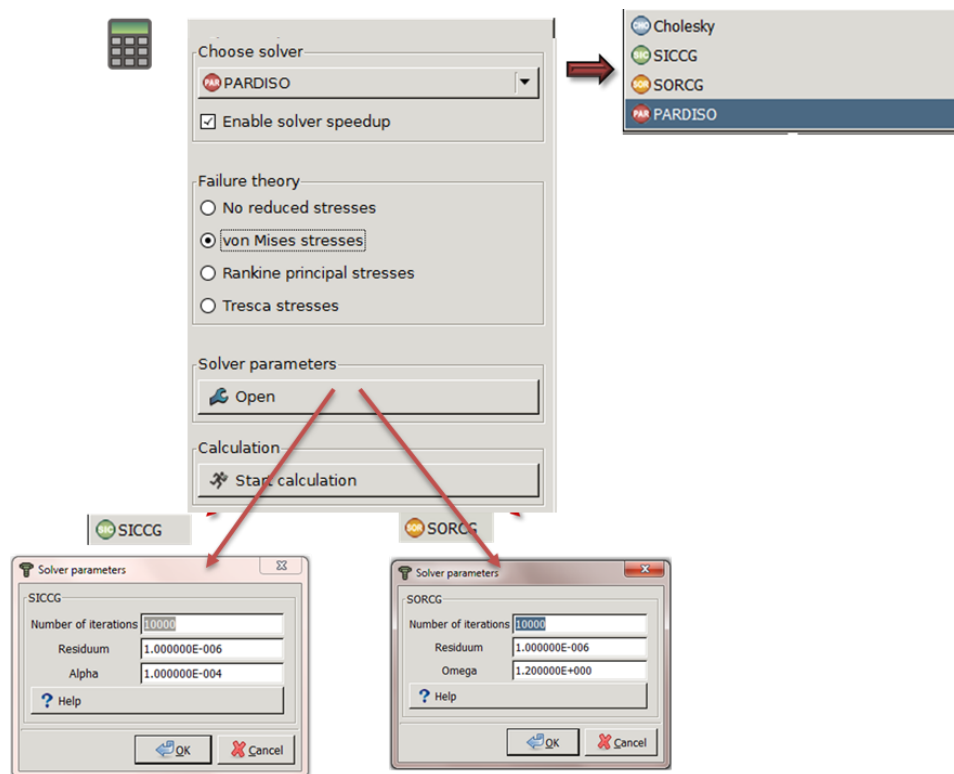

Figure 42: Choose the appropriate equation solver
The user can enter the temperature either in Kelvin (K) or in ° Celsius (°C). This makes no difference for the calculation results. The heat flux density is a surface-related load, i.e. it defines the heat flux per surface (unit: W/mm²). The heat flux (unit: W) as a nodal load can be applied either *uniformly distributed* or *distributed*. *Uniformly distributed* means here that the same entered value is assigned to every node. *Distributed* applies the loads according to FE rules. If one wants to carry out a thermo-mechanical simulation, one must define only new sets with additional mechanical boundary conditions (e.g., of a constraint). Then the Solver automatically recognises that the user would like to carry out such a simulation. As a calculation core can be selected between three equations solvers: PARDISO (directly and multi-core-running), SICC and SORCG (iterative) (figure 42). The Cholesky-Solver cannot be chosen here.